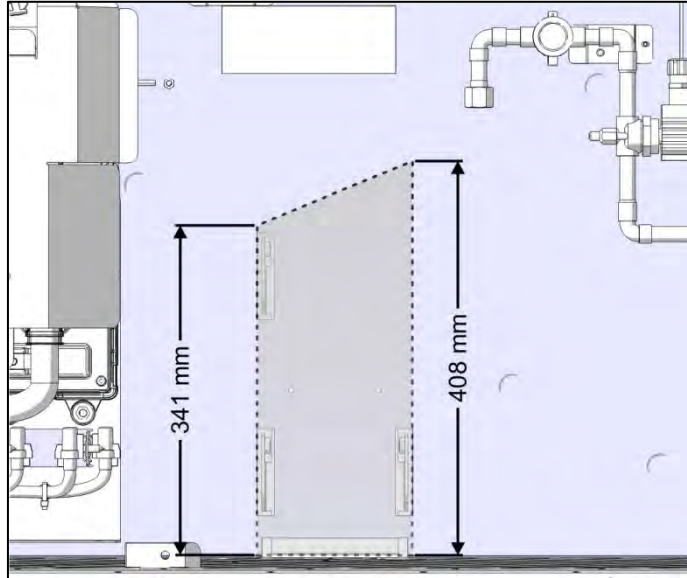

Figure 10: cutout dimensions
19. Remove the filter dryer and A/C receiver tank. (Figure 10)